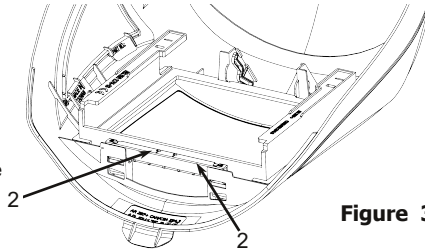

Figure 32
2. Press the bar on the filter holder in and pull up to release the filter holder (Fig. 32).